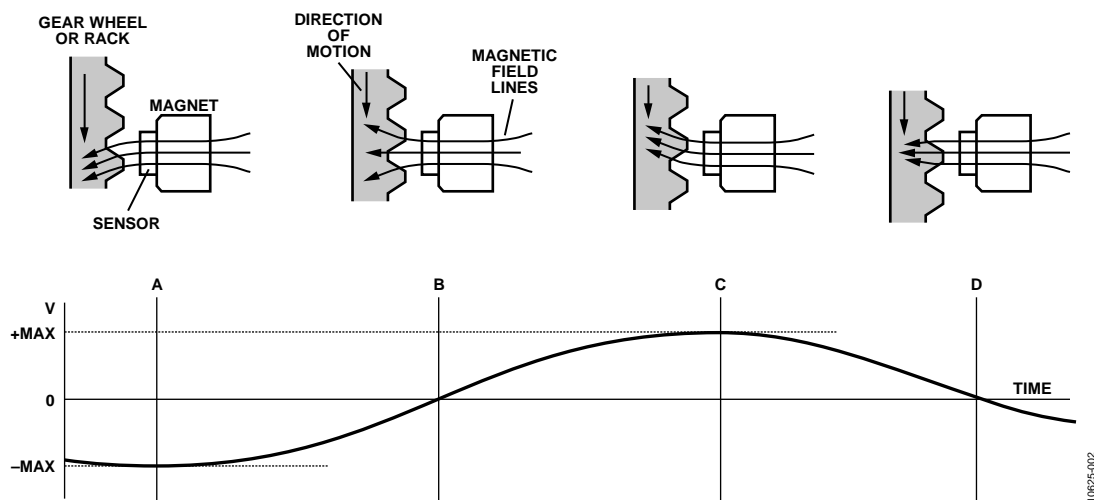

Figure 2. MR Sensor Output
MR sensors are able to measure very slow rotations as low as 0 Hz. The sine wave as shown in Figure 2 is the typical output of an MR sensor sensing one tooth of a passive gear wheel. The output voltage is at its peak when the magnetic field lines are parallel to the direction of motion. One period of the sine wave (T) is equivalent to one gear tooth, hence the period for one full revolution can be calculated by multiplying the period of the sine wave by the number of gear teeth (n). The speed (rpm) can be derived by the inverse period and shown in the following equation: